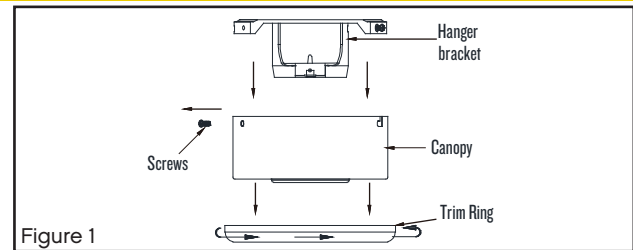

Figure 1
- 1 Remove hanger ball from downrod by loosening set screw in the side of the hanger ball. Slide hanger ball down and remove cross pin. (Fig. 1)